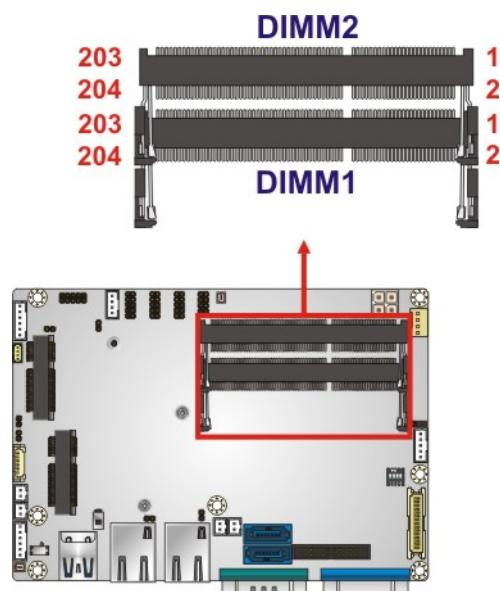

Figure 3-25: SO-DIMM Slot Locations
**CN Location:** See Figure 3-25